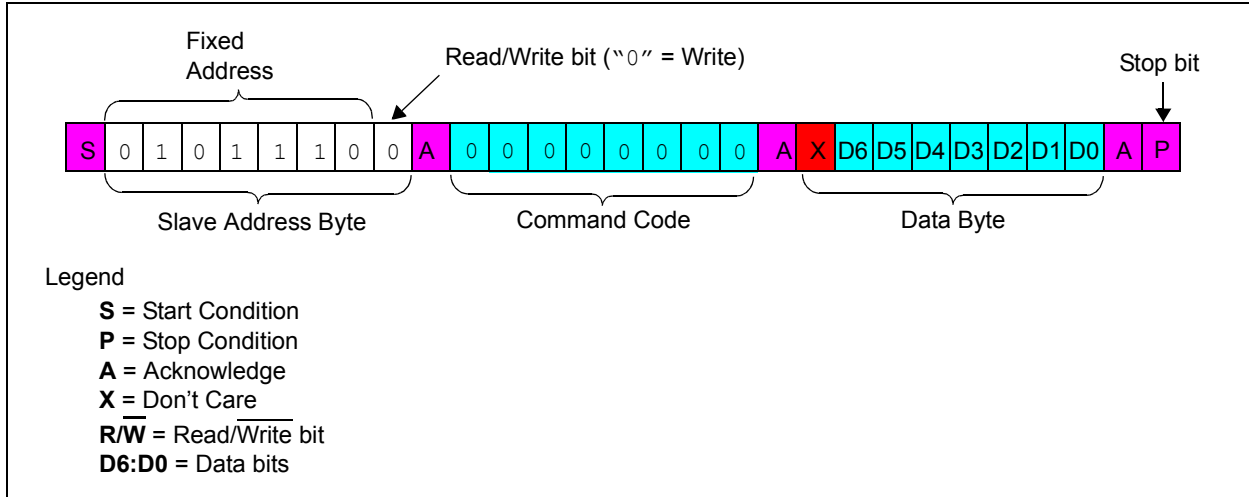
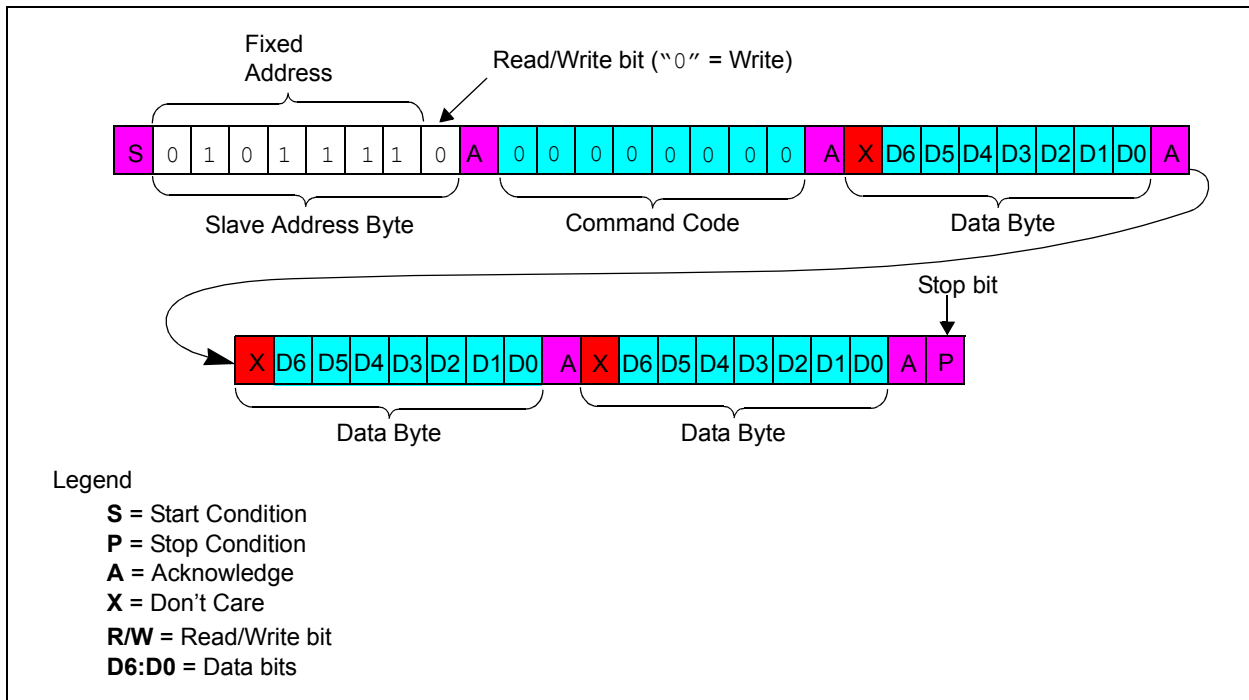

FIGURE 5-11: I²C Single Byte Write Command Format.
FIGURE 5-12: I²C Write Command Format.
Data bytes may be written after each Acknowledge. The command is terminated once a Stop (P) condition occurs. Refer to Figure 5-11 for the single byte write sequence and Figure 5-12 for the generic (multi-byte) write sequence. For a single byte write, the master sends a Stop or Restart condition after the first data byte is sent.